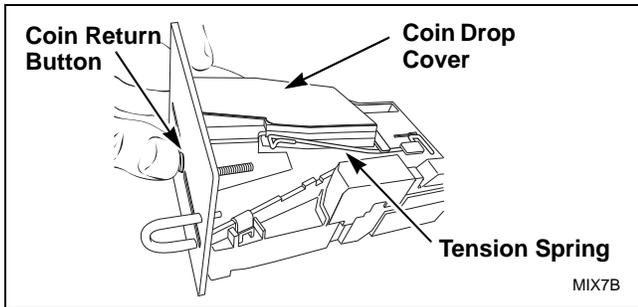
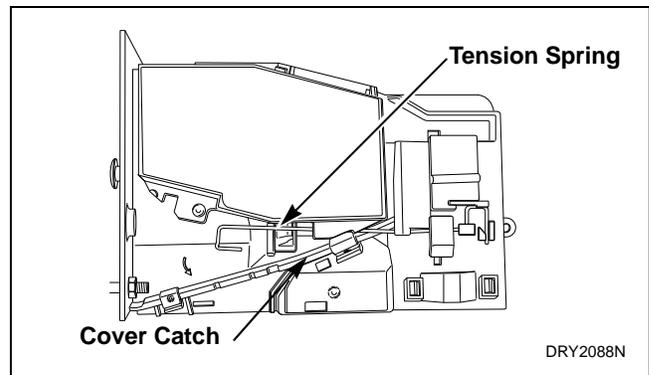
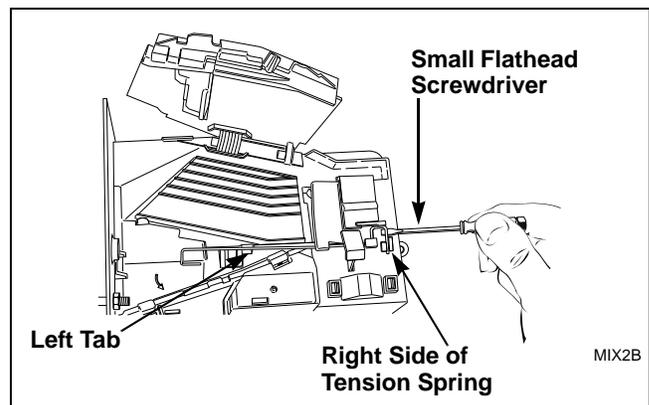

Figure 2
Figure 4
Figure 5
- (1) Clean coin drop. Refer to *Paragraph 55*.
- (2) On electronic coin drops with an old-style tension spring (shown in *Figure 2* and *Figure 4*), test and replace tension spring using the following instructions.
- (1) Push coin return button to open and close coin drop cover to clear possible coin jams. Refer to *Figure 2*.
- (1) Move tension spring downward until cover catch is free. Refer to *Figure 4*.
- (2) Open cover for coin drop.
- (3) Place a small flathead screwdriver under right side of tension spring and lift up. Refer to *Figure 5*.
- (4) Use screwdriver to move spring approximately 3 mm to left.
- (5) Lift spring over left tab. Refer to *Figure 5*.
- (13) Lift spring gently to place in position under left tab.
(14) Push spring to right until it snaps into position. Refer to *Figure 5*.
(15) Close coin drop cover.
(16) Move tension spring over cover catch. Refer to *Figure 4*.